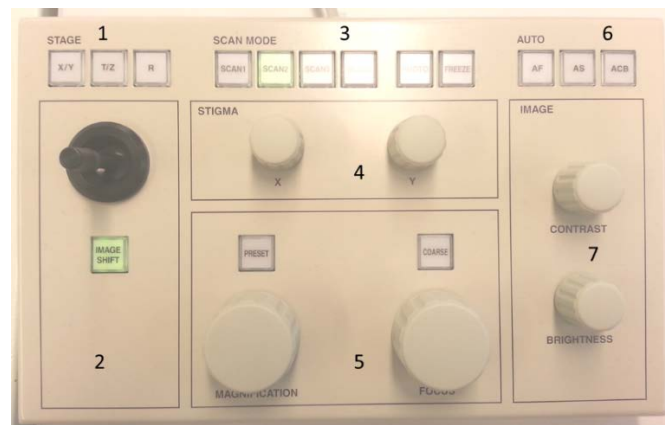

Figure 9: Operations Keyboard
8. The SEM comes equipped with a traditional operation keyboard (figure 9):